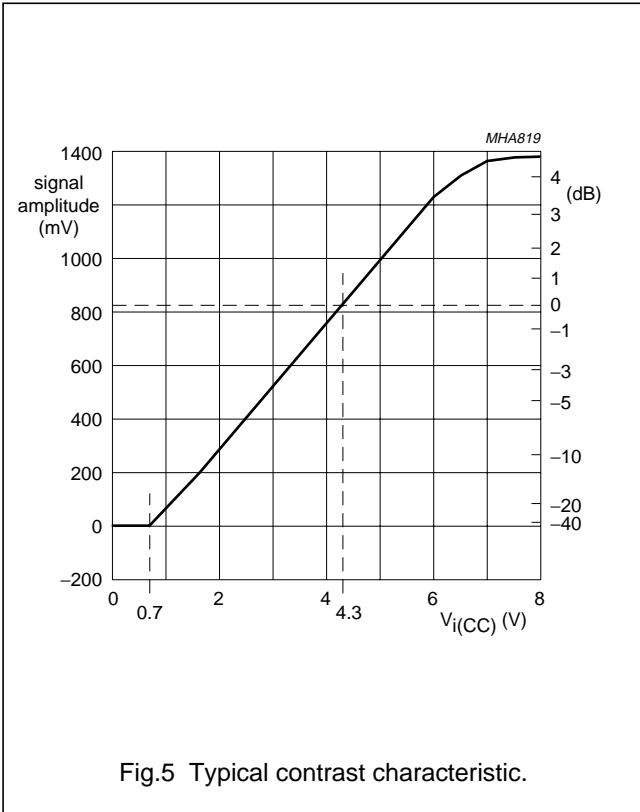

Fig.5 Typical contrast characteristic.
2. Linear control range is 1 to 6 V for $V_{i(CC)}$, independent of supply voltage. Open pin 6 leads to absolute maximum contrast setting. It is recommended not to exceed $V_{i(CC)} = V_P - 1 \text{ V}$ to avoid saturation of internal circuitry. For $V_{i(CC)} < V_{i(CC)(min)} \approx 0.7 \text{ V}$ a small negative signal ($\approx -40 \text{ dB}$) will appear. For frequency dependency of contrast control see note 14. Typical contrast characteristic see Fig.5.